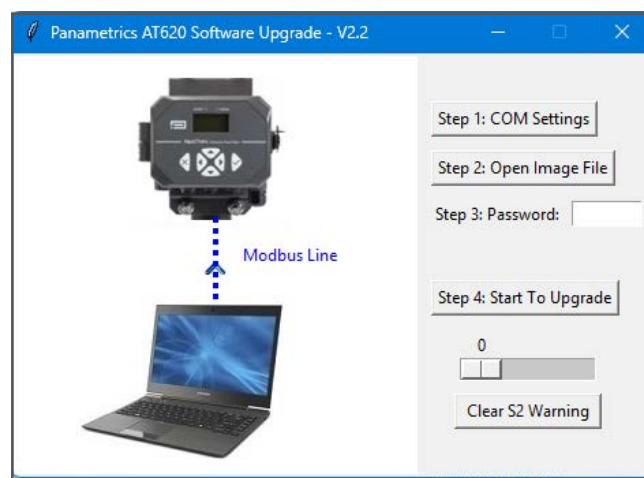

Figure 38: Running the update.exe Software
3. Run the update software by clicking on the upgrade.exe file (see *Figure 38* below). Installation of the software on the PC is not required.